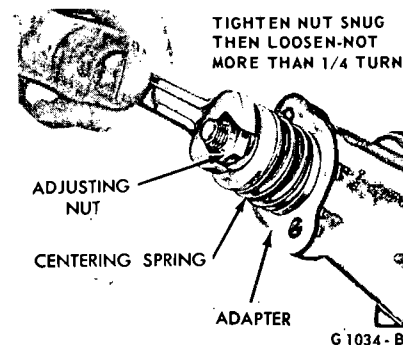

FIG. 15—Adjusting Centering Spring
16. Compress the centering spring, and install the nut on the bolt. Tighten the nut snug, then loosen it not more than 1/4 turn (Fig. 15). Excessive tightening of the nut may break the stop pin at the travel regulator stop.